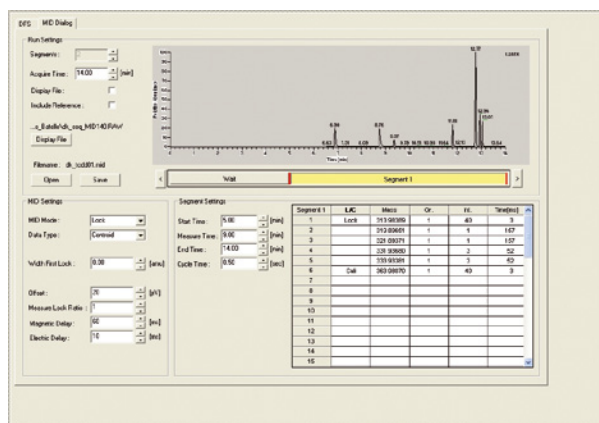

Figure 5: MID editor with sample chromatogram (top) and target mass list and duty cycles for the highlighted retention time window (bottom right).
With the updated and exact mass calibration settings, the analyzer now sets the acceleration voltage to the masses of the target ions. The intensity of each ion is measured based on a preset dwell time (see Figure 2: ④). The dwell times to measure the analyte target ion intensities are significantly longer than the lock or calibration mass ions dwell times. This is done to achieve the optimum detection sensitivity for each analyte ion (see Figure 5). The exact positioning on the top of the target ion mass peak allows for higher dwell times, significantly increased sensitivity, and higher S/N values compared to sweep scan techniques still used in HRMS systems from other vendors. It is important to note that the lock-plus-cali mass technique extends the dynamic range of the DFS significantly into the lower concentration range.
To set the retention time window, a sample chromatogram is used as a template. The sample chromatogram is displayed in the Thermo Scientific Xcalibur MID editor as a total ion chromatogram to facilitate the window setting, as shown in Figure 5. The sample chromatogram is used to optimize the GC component separation and set the MID windows before data analysis, and usually consists of a higher concentration standard mix.